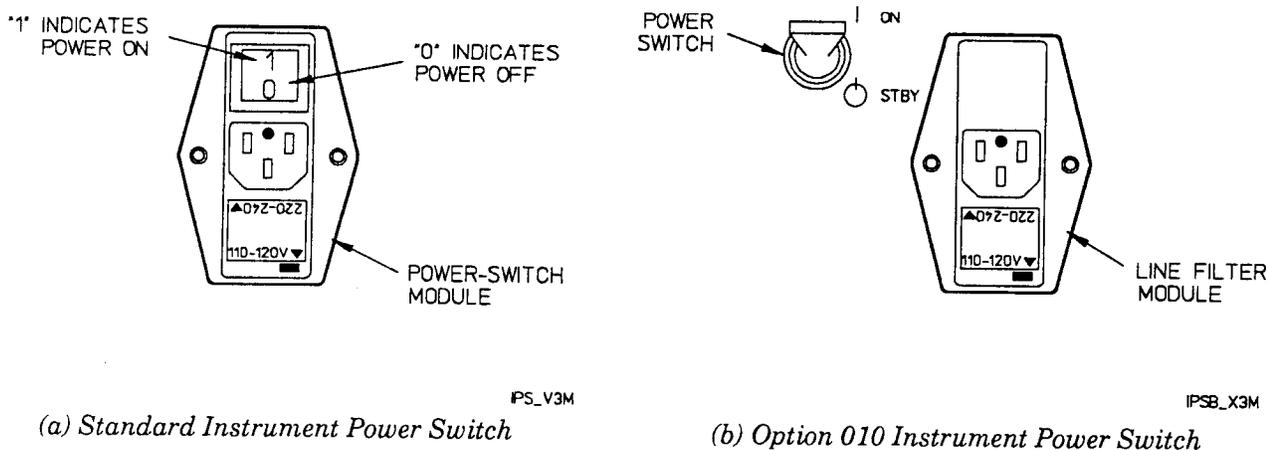

Figure 1-5. ON/OFF Power Switches
### 2 Turn on the HP 53310A with the rear panel power switch. See *Figure 1-5*.
With the standard instrument power switch, shown in *Figure 1-5 (a)*, turn on the instrument by pressing the “1” on the rocker switch. The rocker switch is labeled “1” and “0”, corresponding to ON and OFF.
*Figure 1-5(b)* shows the Option 010 instrument power switch. When the power switch is in the “On” position, power is applied to the instrument. The “Stby” position removes operating power from the instrument, but provides power for the Option 010 Oven Oscillator to maintain a constant temperature for the crystal.